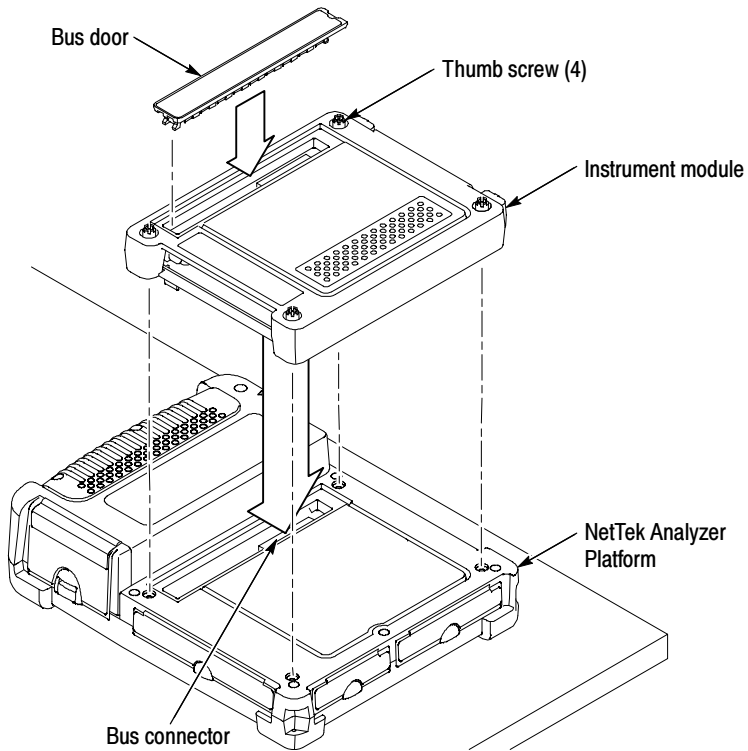

Figure 1-9: Install instrument module
Use the following procedure to install an instrument module onto the rear of the NetTek Analyzer Platform or to attach one module onto another. Refer to Figure 1-9 throughout this procedure.
5. Carefully lower an Instrument module onto the NetTek Analyzer Platform or previously installed module to engage the bus connector. See Figure 1-9.
7. Locate the four thumb screws. See Figure 1-9.